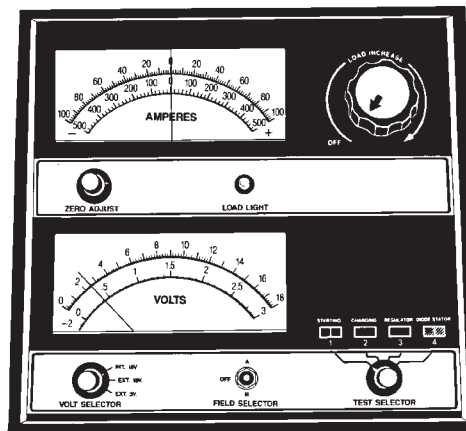

Fig. 8 Voltmeter Accurate to 1/10 Volt (Connected)
- (1) Measure the voltage at remote cable terminals with a voltmeter accurate to 1/10 volt (Fig. 8). If below 10 volts, charge current will be low, and it could take some time before it accepts a current in excess of a few milliamperes. Such low current may not be detectable on amp meters built into many chargers.